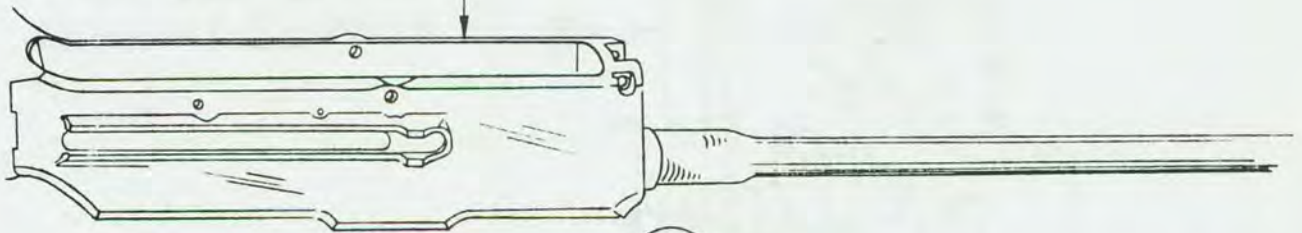

FIG. 1
9 INSERT BOLT (D) INTO RECEIVER (E) TOWARD REAR AND SLIDE IT FORWARD, FIG. 1.